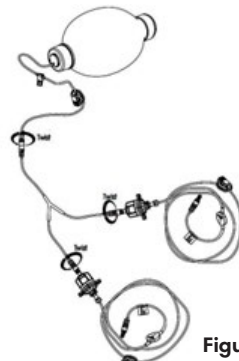

Figure 2b
2. Then connect each luer-lock connector on the Y-Tubing to each Regulator inlet port (see Figure 2b)